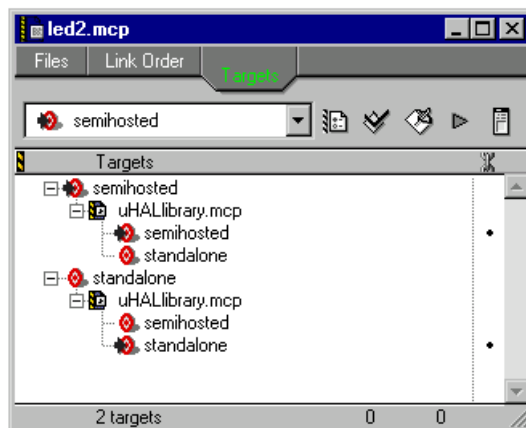

Figure 5-5 Targets for library
- g. Verify that the correct library build targets match the overall build targets by selecting the **Targets** tab (see Figure 5-5).